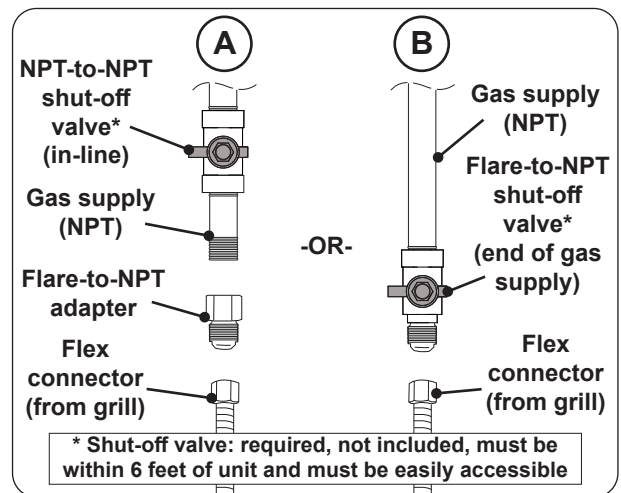

Fig. 22-2 Connecting to a gas line
- Install the supplied flare-to-NPT adapter to the gas supply (NPT) using a pipe joint compound resistant to all gasses (see Fig. 22-2, A). Tighten securely.
- Connect the flex connector to the adapter (see Fig. 22-2, A). Tighten securely.
- Connect the flex connector to the shut-off valve (flare) (see Fig. 22-2, B). Tighten securely.